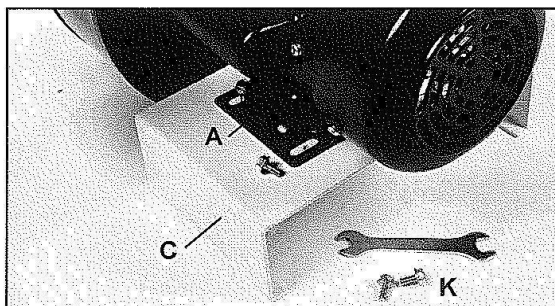

FIG. 1
- Wrench 10/12mm (J)
1. Assemble the Motor Plate (A) to the Motor Bracket (C) with the 4 Bolts (K). Figure 1.